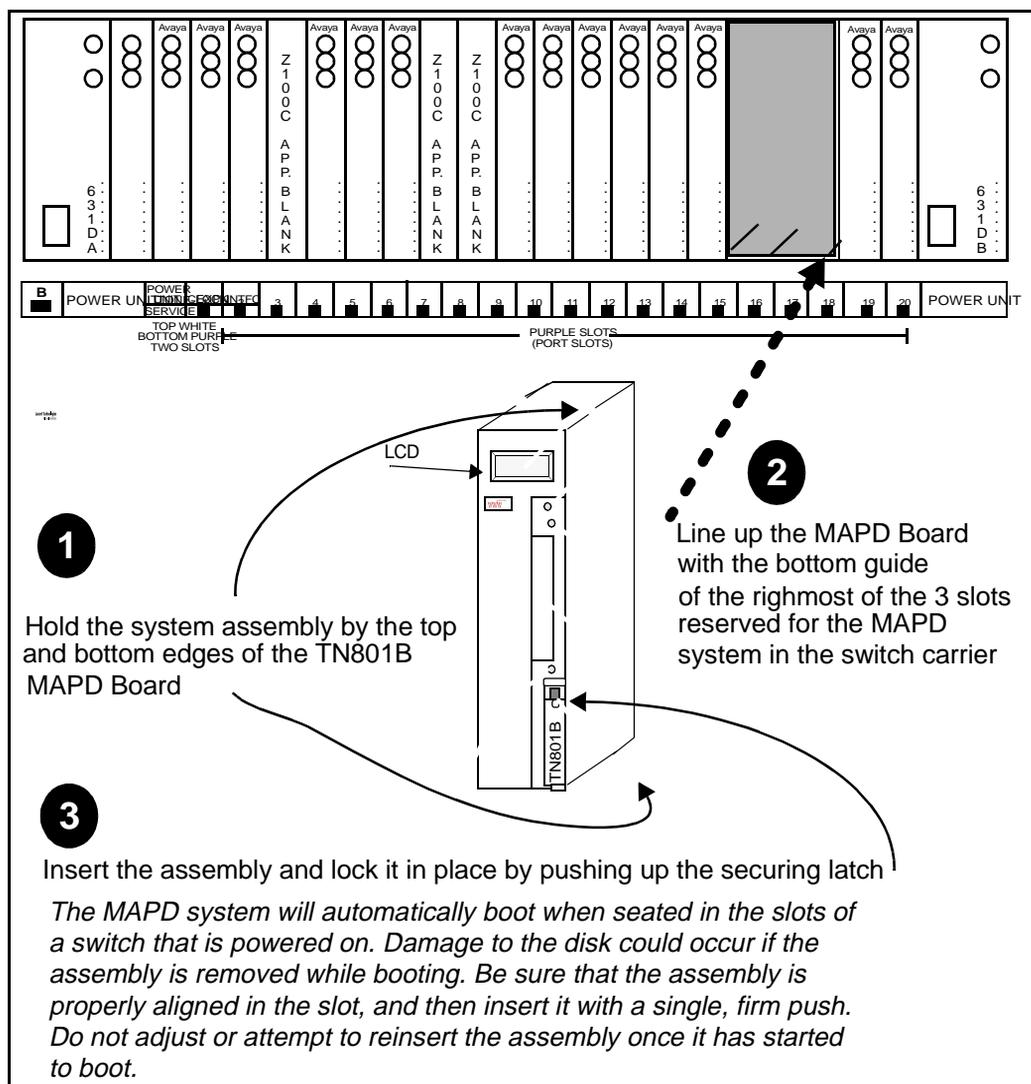

Figure 2-9. Installing the TN801B in a DEFINITY ECS (AC)
- Insert the system assembly (see Figure 2-9) into the switch cabinet as follows: